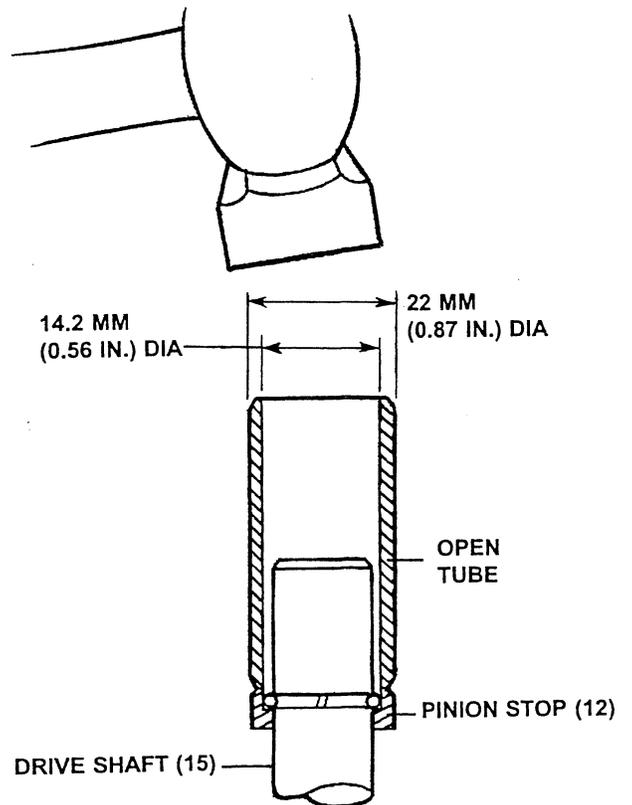

FIGURE 8. REMOVING PINION STOP
1. Stop rings (35) and pinion stop (12).
- b. Using an open tube slightly larger than the shaft (see Figure 8), drive the pinion stop (12) toward the clutch drive assembly (2) until it clears the stop rings (35).
- c. Using care not to scratch the drive shaft (15), pry the stop rings out of the shaft groove and slide them off the end of the shaft.
- d. Inspect the edges of the shaft groove for burrs that may have been formed through repeated cranking cycles. Such burrs may make removal of the pinion stop and clutch drive assembly (2) difficult. If burrs are found, use a suitable file to carefully remove the burrs only – not the base metal. Thoroughly clean away metal filings.
- e. Slide the pinion stop (12) off the drive shaft (15). Discard the old pinion stop (12) and stop rings (35). New parts must be used at assembly.
2. Clutch drive assembly (2) from drive shaft (15).
3. Drive shaft support (17) from drive shaft (15).
- a. Do not remove the bearing (10) from the drive shaft (15) unless replacement is required (refer to *CLEANING, INSPECTION AND REPAIR*).